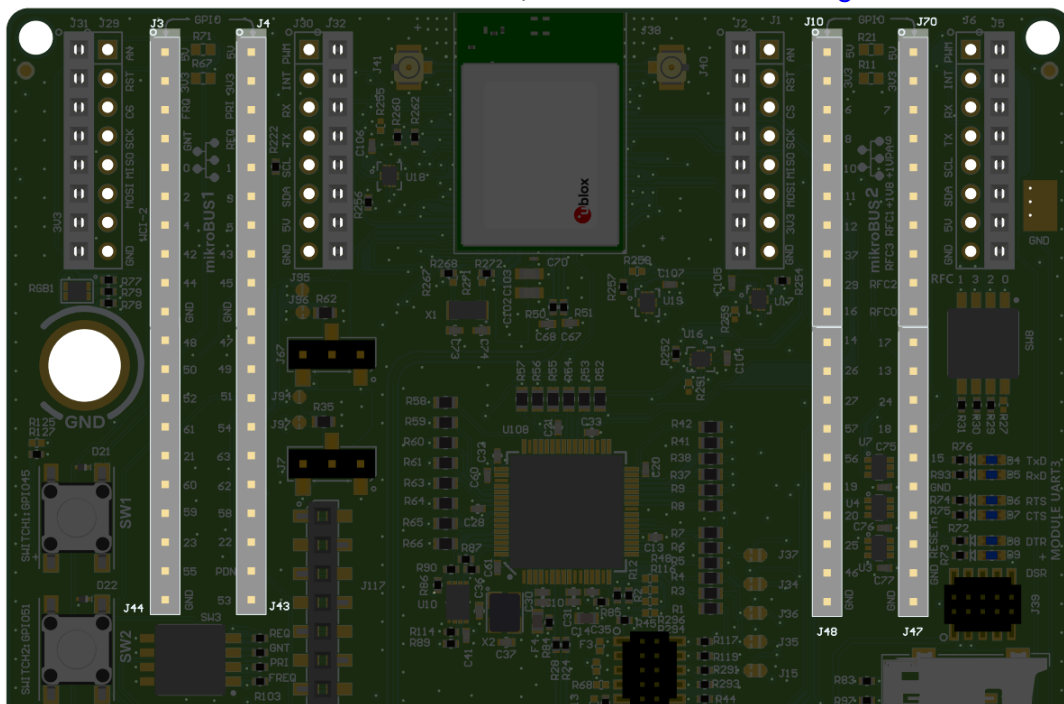

Figure 30: Pin headers
All GPIOs on IRIS-W10, except PSRAM-related GPIOs, are accessible on through-hole (TH) pin headers **J3**, **J4**, **J10**, **J43**, **J44**, **J47**, **J48**, and **J70**, as shown in Figure 30.